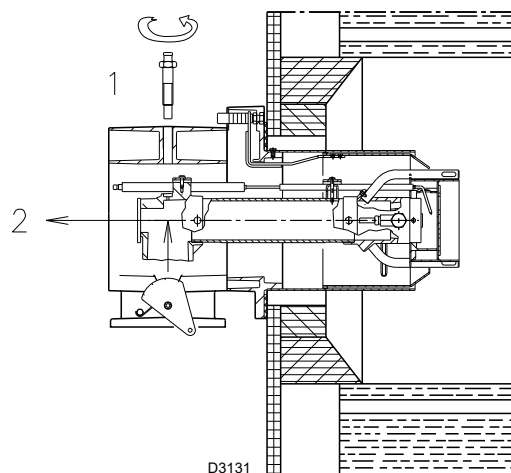

Fig. 19
- Remove the screw 1)(Fig. 19) and the internal part 2);
To facilitate the adjustment, loosen the screw 1)(Fig. 19 on page 23), adjust, then block.